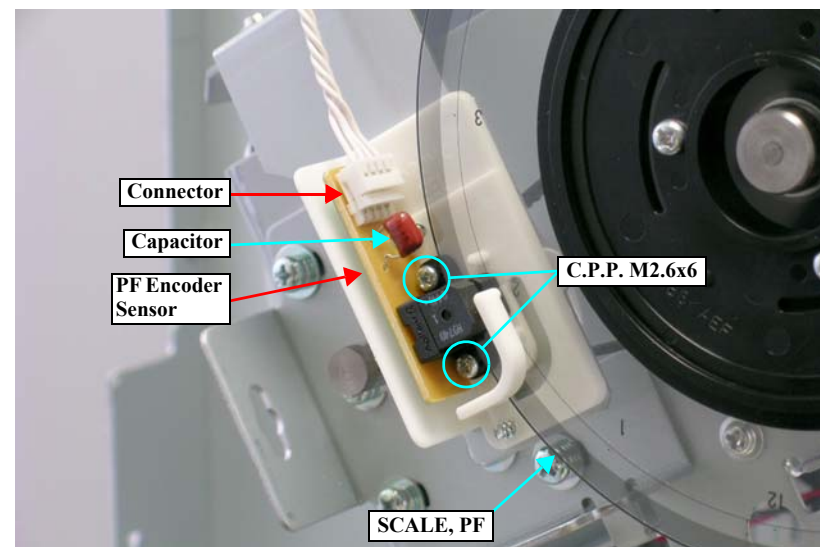

Figure 4-89. Removing the PF Encoder Sensor
When removing the SCALE, PF, be careful not to deform or damage it. *See Figure 4-89.*
When removing the PF Encoder Sensor, be careful not to bend the capacitor on the sensor. *See Figure 4-89.*
4. Remove the connector from the PF Encoder Sensor. *See Figure 4-89.*
5. Remove the two screws that secure the PF Encoder Sensor and remove it. *See Figure 4-89.*